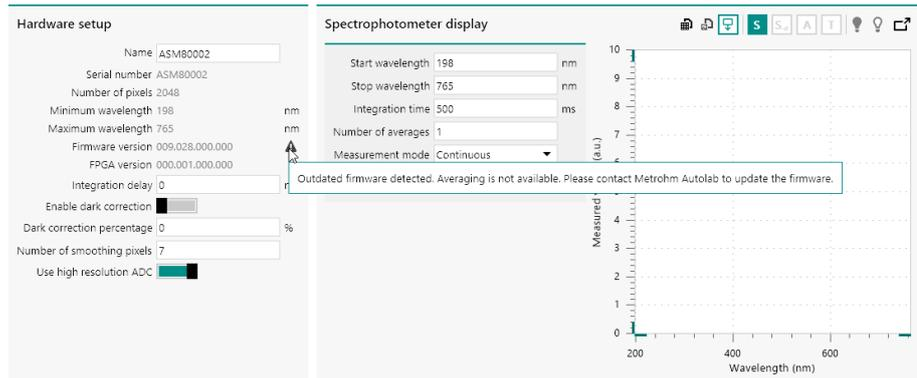

Figure 143 A warning is shown when an outdated firmware is detected
- **009.028.000.000:** this firmware version supports all options provided in NOVA except spectrum averaging. When this firmware is detected, a warning symbol is shown in the **Hardware setup** panel, with an indication that an outdated firmware is detected, as shown in *Figure 143*.